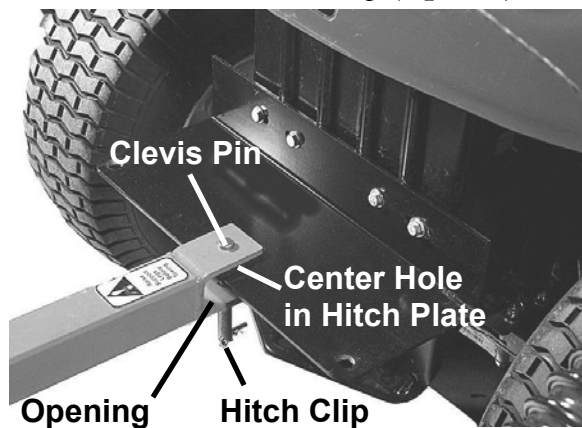

Figure 19
4. Remove the Clevis Pin and lift the trailer tongue off the Hitch Plate and reposition the tongue so that the Hitch Plate is in the opening in the tongue (*Figure 19*).
5. Align the hole in the center of the Hitch Plate with the holes in the tongue and insert the Clevis Pin and attach the Hitch Clip (*Figure 19*).